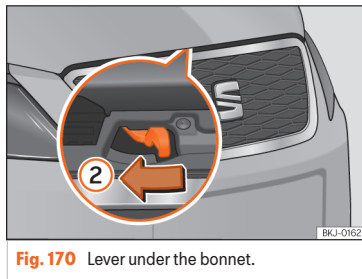

Fig. 170 Lever under the bonnet.
- To lift the bonnet, press towards the left on the lever located under the bonnet, in the centre »» Fig. 170 ②. The fastening hooks are unlocked.